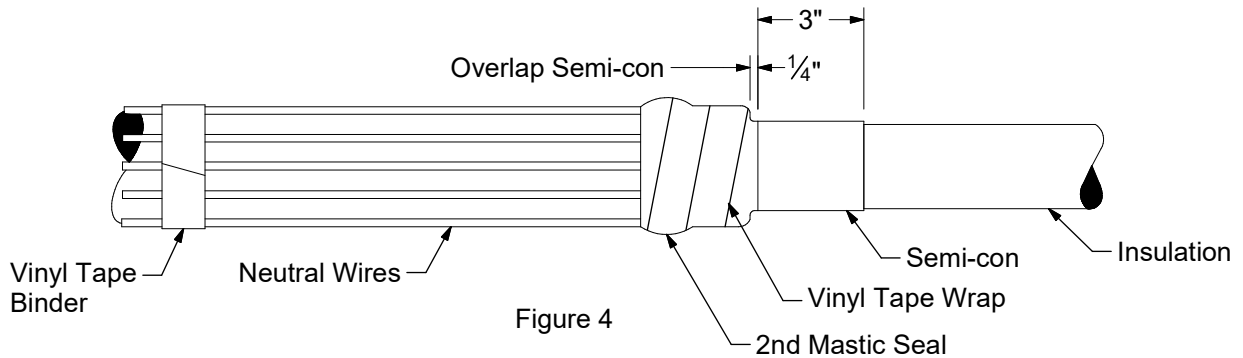

Figure 4
- Compress neutral wires into mastic by over-wrapping seal strips with two half-lapped layers of highly-tensioned Scotch Vinyl Electrical Tape Super 88. Cover all exposed mastic and neutral wires, overlapping 1/4" onto the exposed cable semi-con. (Figure 4) Take care to leave 3" of exposed semi-con.